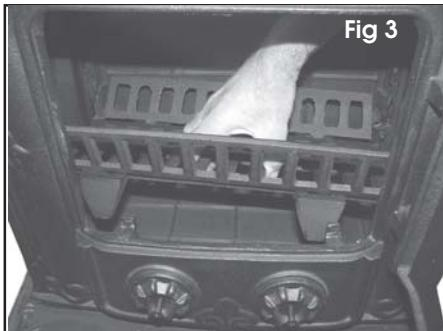

Fig 3
4. Set the grate in position inside the stove as in Fig 3, complete with its side rails.